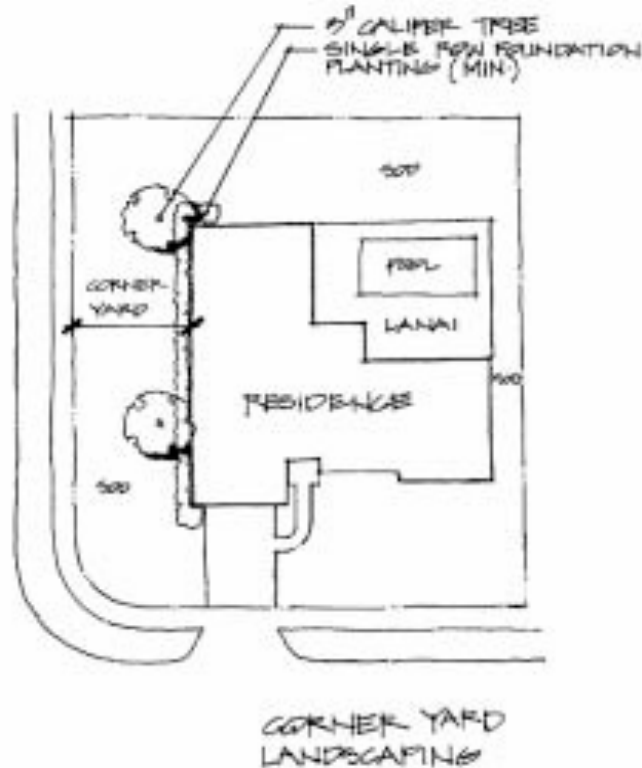

FIGURE 44-13
1. At least one (1) solid row of one (1) gallon sized hedge shall be planted along the building side which faces the street. **Figure 44-13**
2. Any hedge planted along the corner yard, along the house as exhibited in **Figure 44-13**, shall be to a maximum height of eight feet (8').
6. Corner lot landscaping shall adhere to the site plan as shown in **Figure 44-13**.